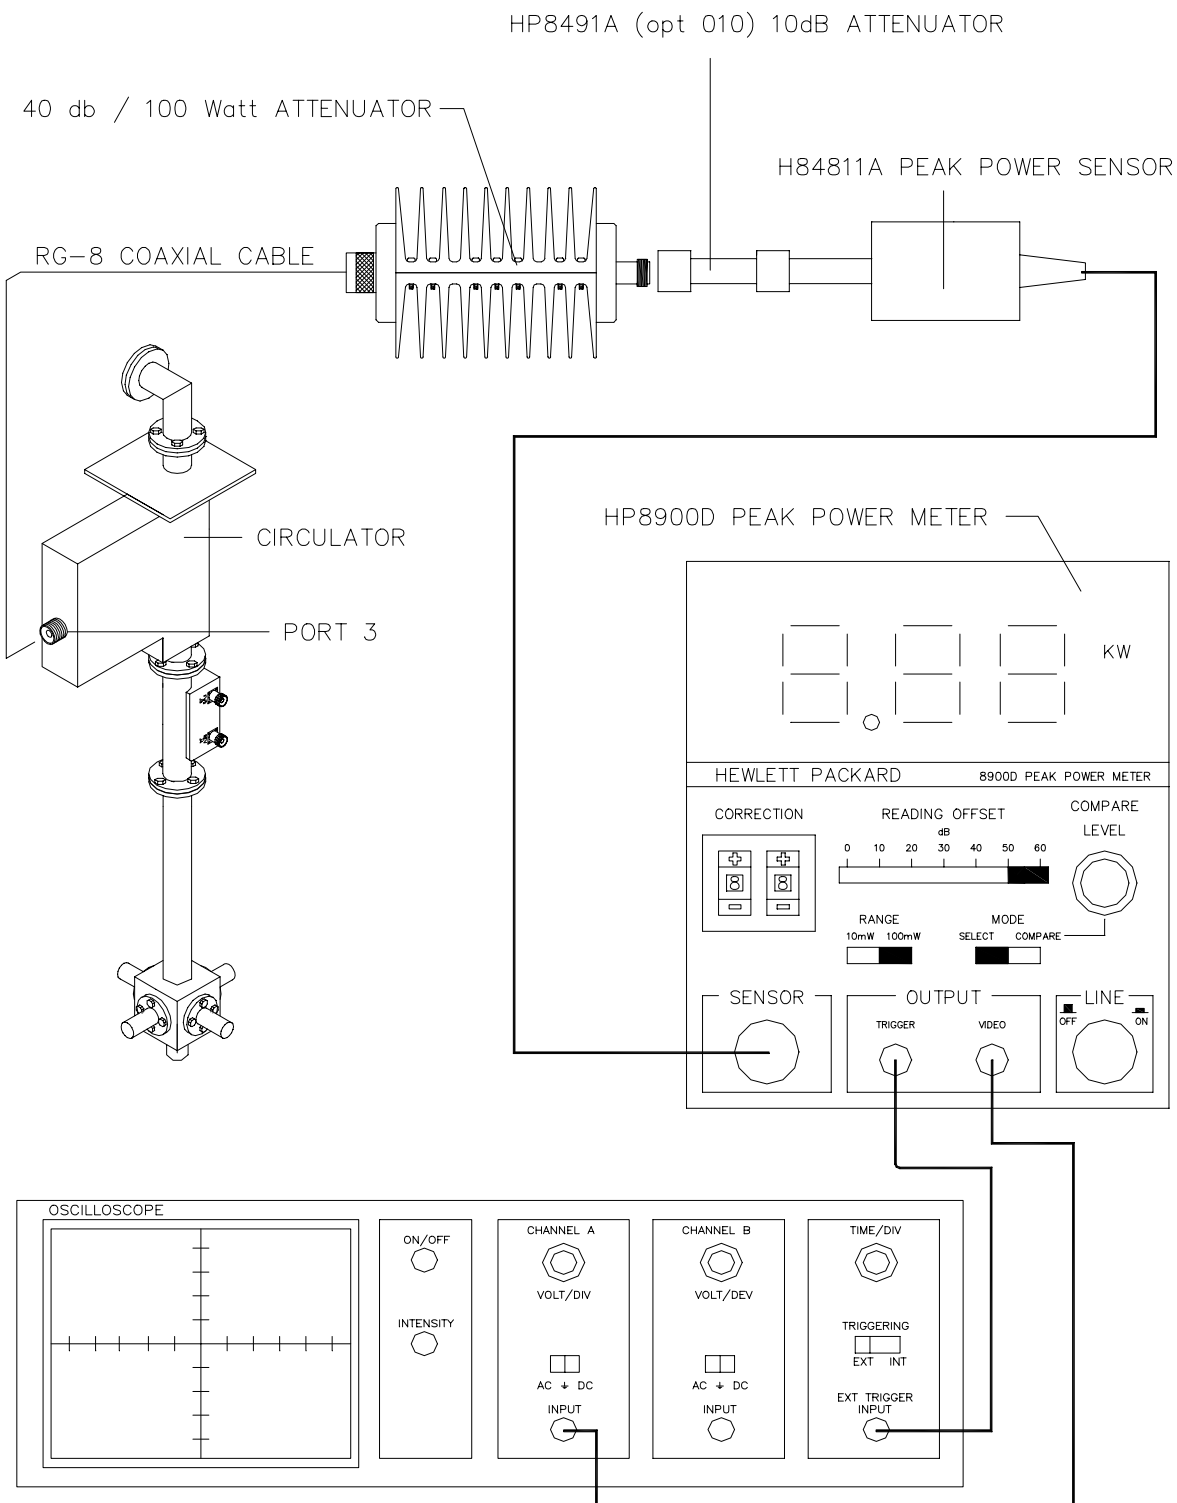

Figure 5-12 Circulator Port 3 Power Test Equipment Setup
The test equipment setup for this procedure is illustrated in Figure 5-12.
6. Assemble the test equipment as illustrated in Figure 5-12. Connect one end of an RG-8 coaxial cable to port 3 of the Circulator, and connect the other end of the cable to the INPUT port of the 40-dB attenuator. Connect the 10-dB attenuator to the OUTPUT port of the 40-dB attenuator. Connect the HP84811A Peak Power Sensor to the 10-dB attenuator. Connect the Peak Power Sensor to the HP8900D Peak Power Meter. Connect the VIDEO OUTPUT of the HP8900D to Channel One of the oscilloscope with a BNC (M) to BNC (M) coaxial cable. Connect the TRIGGER OUTPUT of the HP8900D to the EXTERNAL TRIGGER INPUT of the oscilloscope with a BNC (M) to BNC (M) coaxial cable.